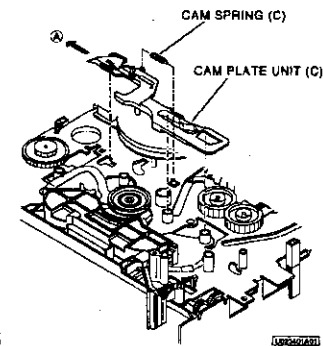

Fig. 2-34-1
2 Remove the CAM SPRING (C) shown in Fig. 2-34-1.
3 Move the CAM PLATE UNIT (C) in the direction shown by arrow (A) to remove it as shown in Fig. 2-34-1.
3 Install the CAM SPRING (C) shown in Fig. 2-34-1.